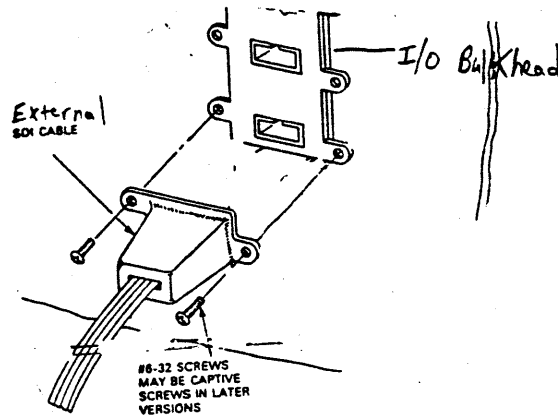

Figure 2-12: External SDI Cable Installation
Refer to Figure 2-12 while completing the following procedure.
- 3) If the external cables connected to the I/O panel have their natural bend horizontally, use the following securing procedure. Refer to Figure 2-12.
The external SDI cables must be grounded to the I/O bulkhead by mounting the shield terminators with screws. Use the following procedure to install the cables. Refer to Figure 2-12.